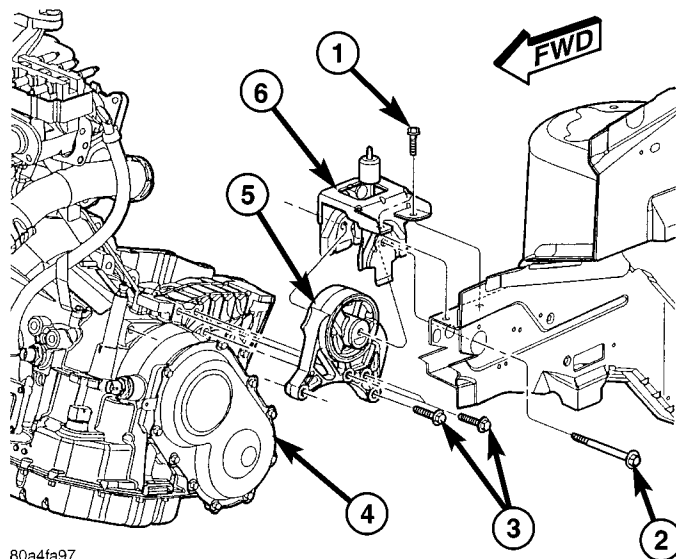

Fig. 159 Left Mount to Bracket and Transaxle
(1) Using a transmission jack and a helper, position transaxle assembly to engine. Install and torque bellhousing bolts to 95 N·m (70 ft. lbs.).
(2) Install upper mount assembly to transaxle and torque bolts to 54 N·m (40 ft. lbs.) (Fig. 159).
(3) Raise engine/transaxle assembly into position. Install and torque upper mount-to-bracket thru-bolt to 75 N·m (55 ft. lbs.) (Fig. 159).
(4) Remove transmission jack and screw jack.
(5) Secure left wheelhouse splash shield.
(6) Install torque converter-to-drive plate bolts and torque to 88 N·m (65 ft. lbs.).
(7) Install inspection cover.
(8) Install lateral bending brace.
(9) Install starter motor.
(10) Install front mount/bracket assembly.